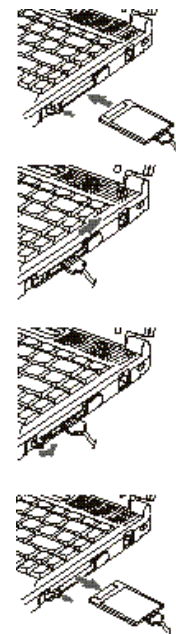

Figure 5-19 Installation of an External Floppy Disk Drive
3. Insert the PC Card in the card slot, with the product name label facing up. (See Figure 5-19.)
6. When the card is installed, lock it in place by sliding the lock button to the right. (See Figure 5-19.)
9. Grab the card and pull it clear of your notebook. (See Figure 5-19.)